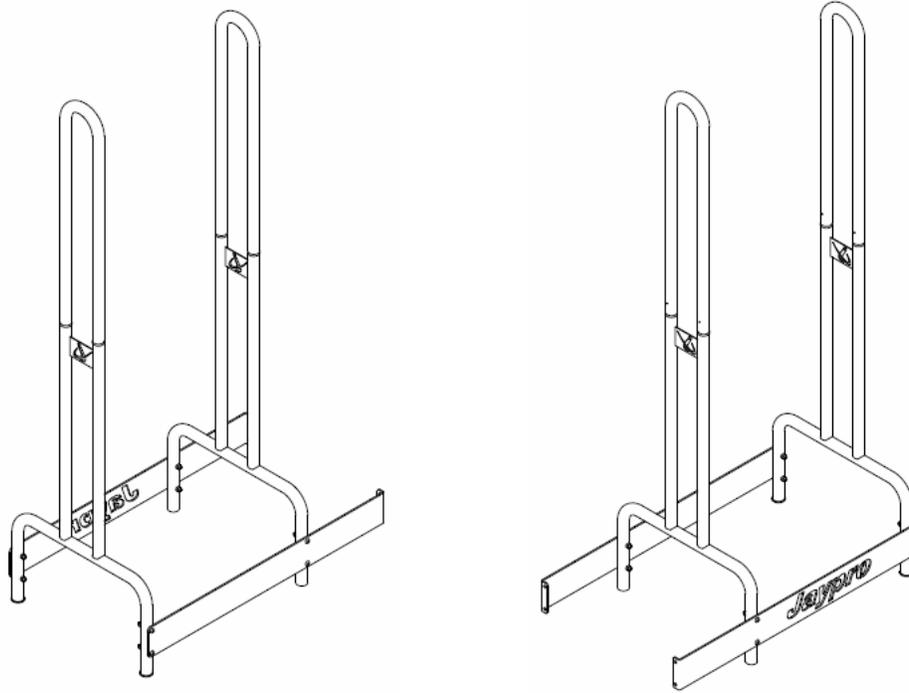

Figure 3
- 3) Repeat steps again to create another set (Figure 3).